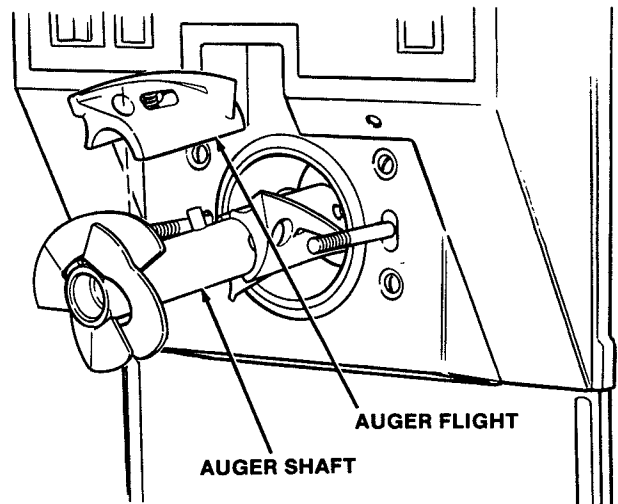

Figure 23. Auger Shaft
- E. Remove the auger assembly from the freezer (Fig. 23). Pull the auger out of the freezer barrel slowly. As the auger is being pulled out, carefully remove each of the plastic flights with springs.
- F. Keep the rear of the auger shaft tipped up once it is clear of the freezer barrel to avoid dropping rear seal (Fig. 23).